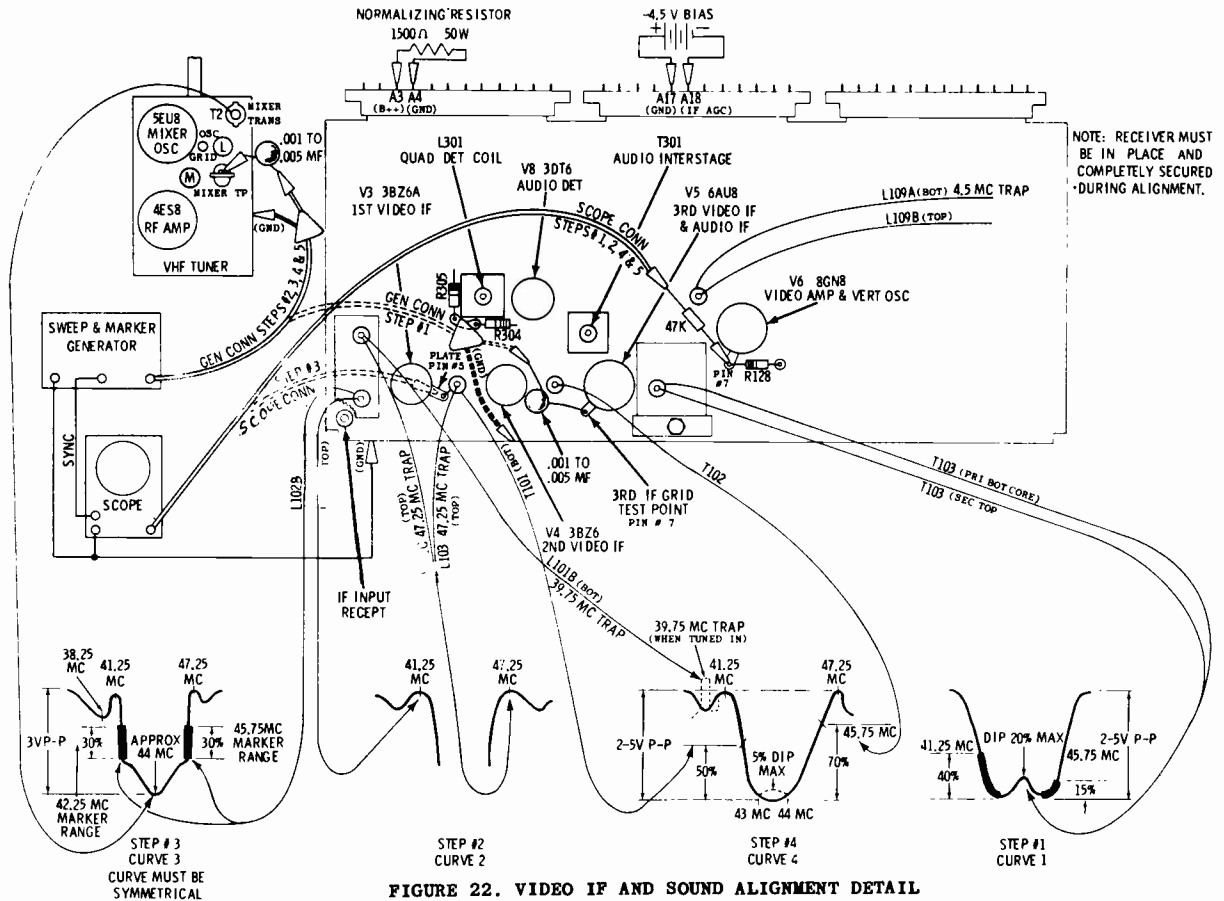

FIGURE 22. VIDEO IF AND SOUND ALIGNMENT DETAIL
- Refer to Video IF & Sound Alignment Detail for coil and test point locations (Fig. 22).